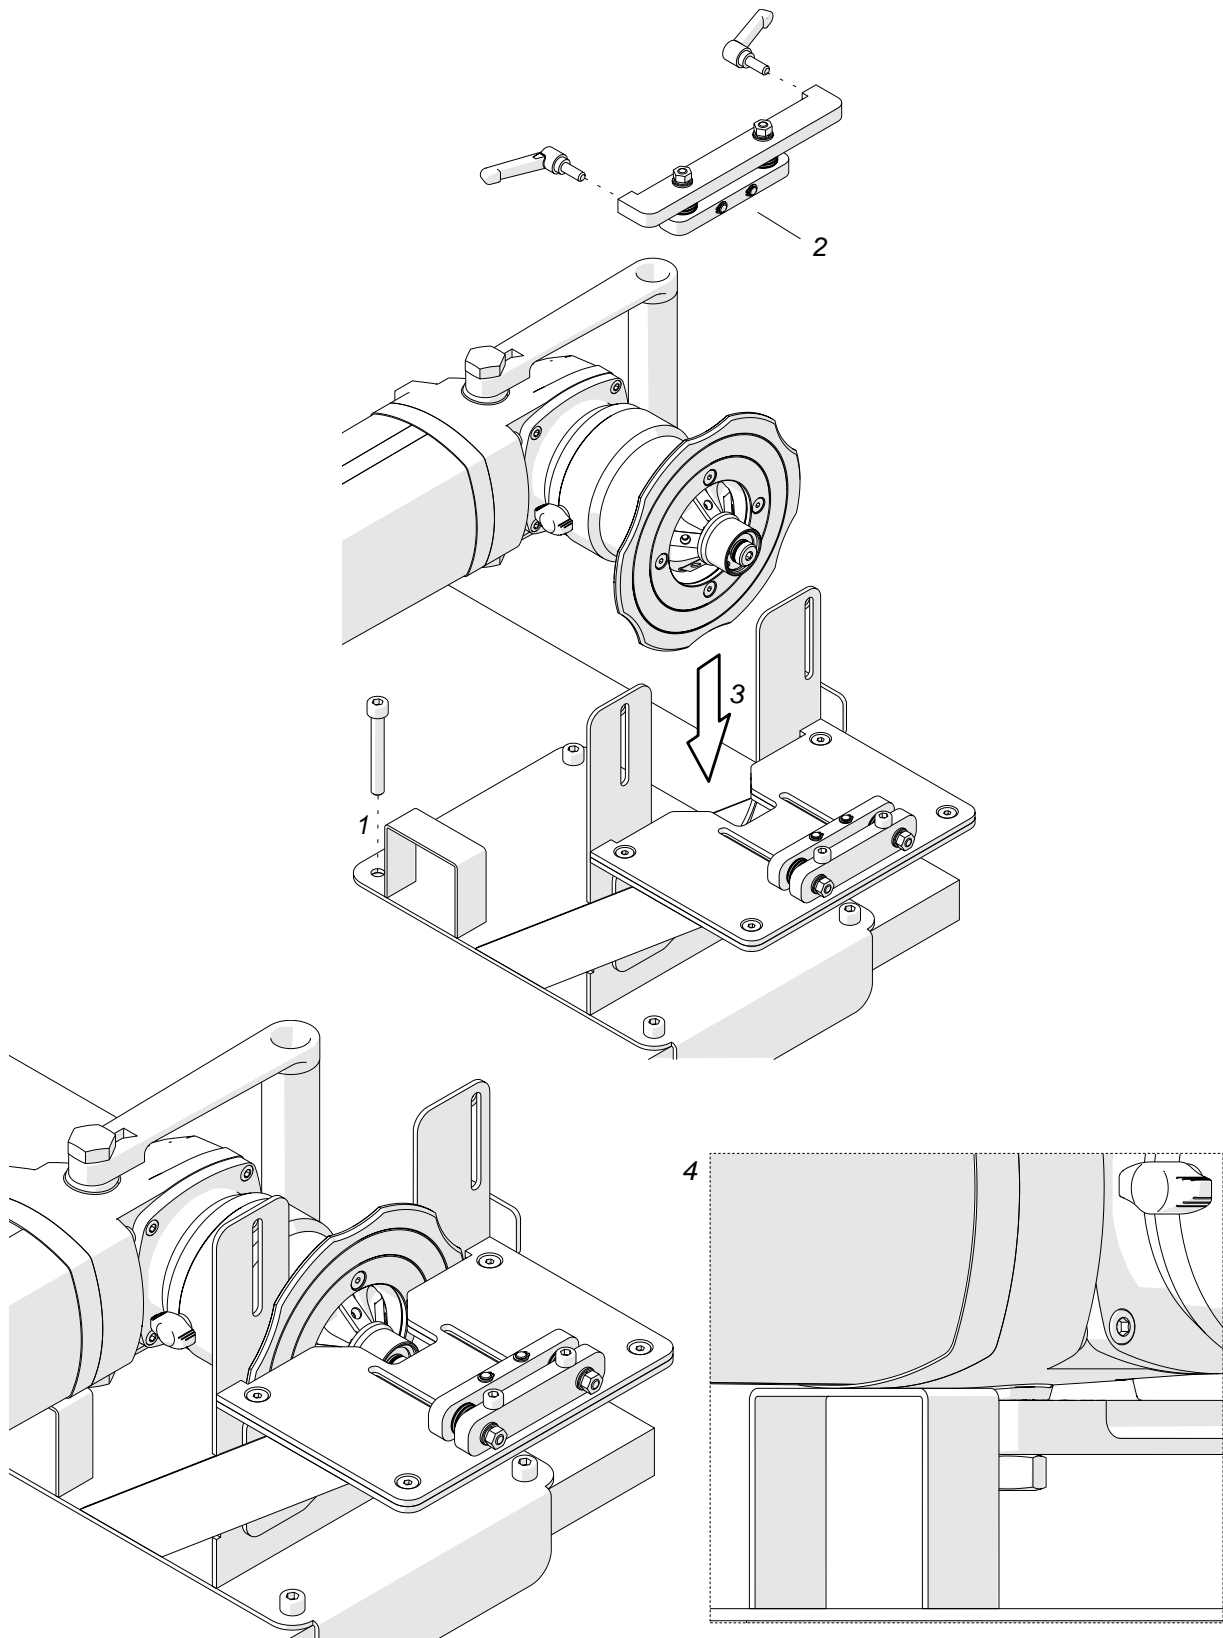

Fig. 12. Installing the machine into the worktable fixture
Install the worktable fixture by using holes in the base (1, Fig. 12). Then, unscrew the levers and remove the vertical clamp (2). Unplug the machine from the power source, and rotate the sleeve to set '0' on the pitch. Next, place the machine with a bevelling milling head into the worktable fixture (3) so that the motor rests on the support (4).